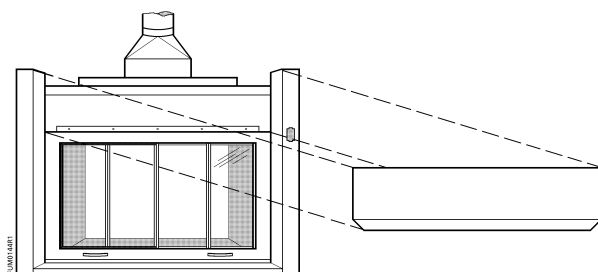

Figure 5. Removal of Front Access Panel.
1. Remove the fume hood front access panel. If the fume hood does not have an access panel, remove the top front airfoil to make installing the UniTrak sensor easier (Figure 5).